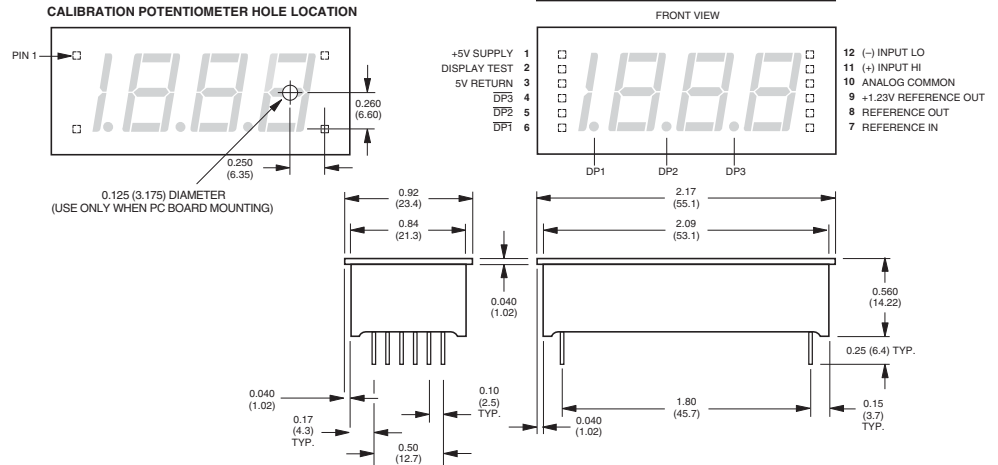

**Figure 10. External Gain Adjustment**
**6. Gain Adjust:** There is a gain-adjust potentiometer on the back of each meter. It has approximately  $\pm 50$  counts ( $\pm 2.5\%$ ) of adjustment range. Since these devices essentially have no zero/offset errors, a gain adjustment is effectively an overall accuracy adjustment. Though they may be performed at any point (except zero), accuracy adjustments are most effective when performed with higher level input signals. The circuit shown in Figure 10 provides  $\pm 10\%$  range of adjustment.
- 8. External Gain Adjustment:** Connect REFERENCE OUT (pin 8) to REFERENCE IN (pin 7) for normal, factory calibrated, operation. Use the +1.23V REFERENCE OUT (pin 9) for applications needing external gain adjustment. Figure 10 shows the wiring configuration for each model. Calibration is performed with a precise, near-full-scale, input voltage.